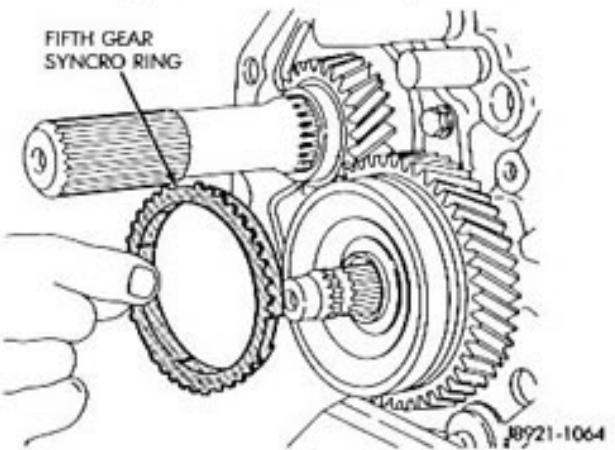

Fig. 34 Removing Fifth Gear Syncro Ring
(15) Remove the fifth gear synchro ring (Fig. 34).